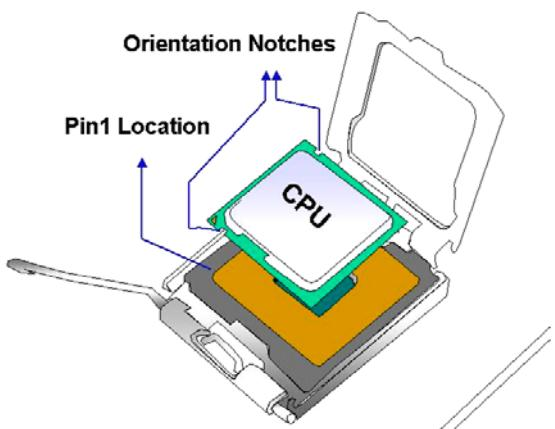

Figure 5-4: Insert the LGA775 CPU
Step 7: **Insert the CPU.** Gently insert the CPU into the socket. If the CPU pins are properly aligned, the CPU should slide into the CPU socket smoothly. See Figure 5-4.